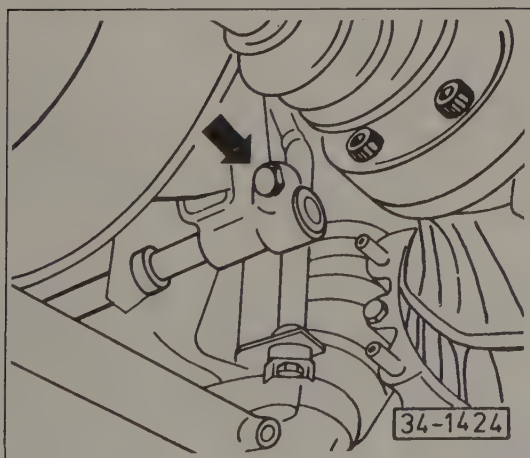

Fig. 4-3. Shift rod clamp bolt (arrow).
2. Loosen the shift rod clamp bolt, shown in Fig. 4-3, so that the shift rod moves freely in the selector lever.
4. Loosen the shift rod clamp bolt (see Fig. 4-3 above) and remove the bolts holding the relay shaft bracket to the body. Slide the bracket off the shift rod.